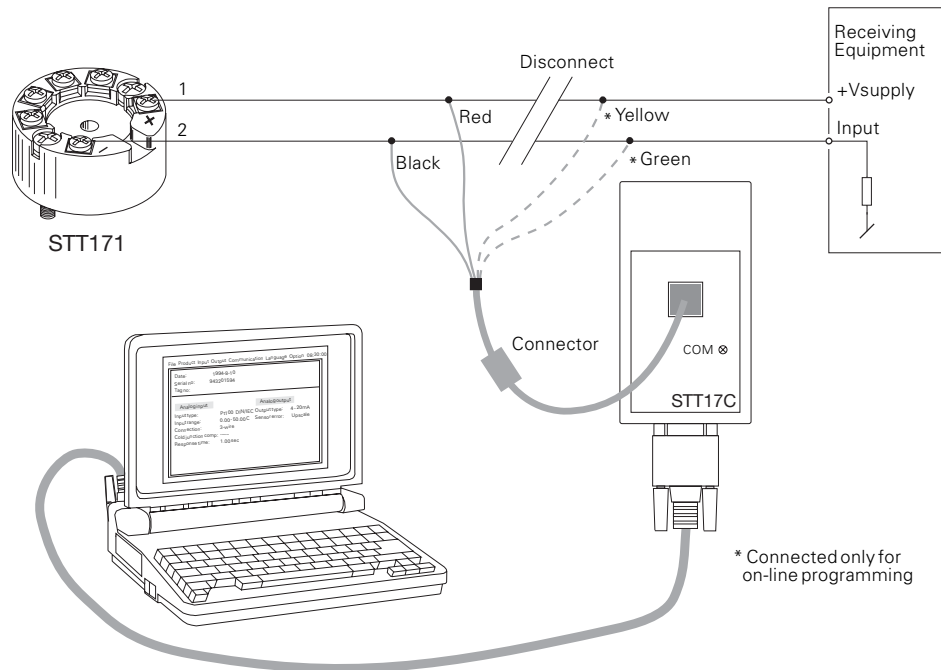

Figure 1-4 Programming
| Figure 1-4 | Programming .....  | 4  |
- For programming, please refer to Figure 1-4 and the help function in STT17C.